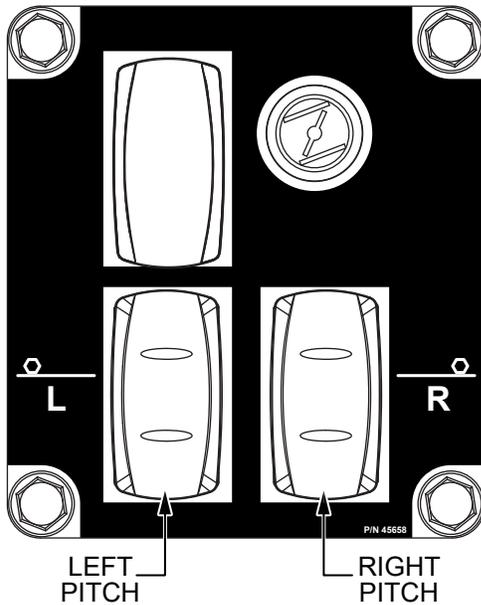

Figure 27. Blade Pitch Control Switches
6. Try adjusting the pitch of the blades using the left and right blade pitch control switches (Figure 27). This can be done with the trowel stopped or while the trowel is moving.